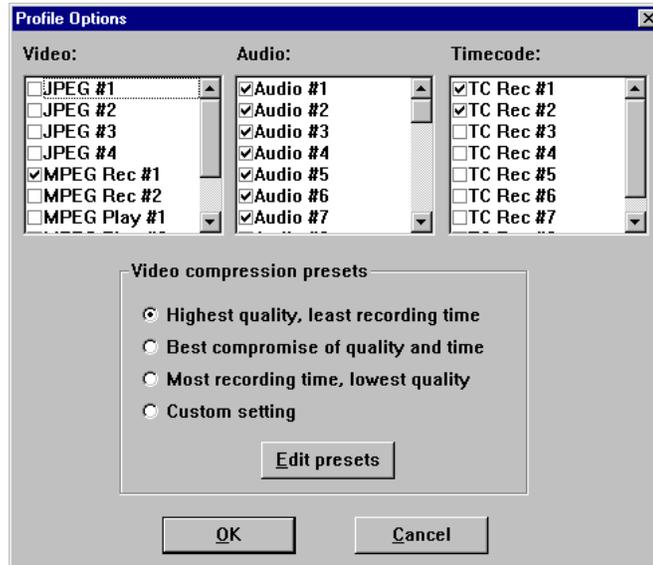
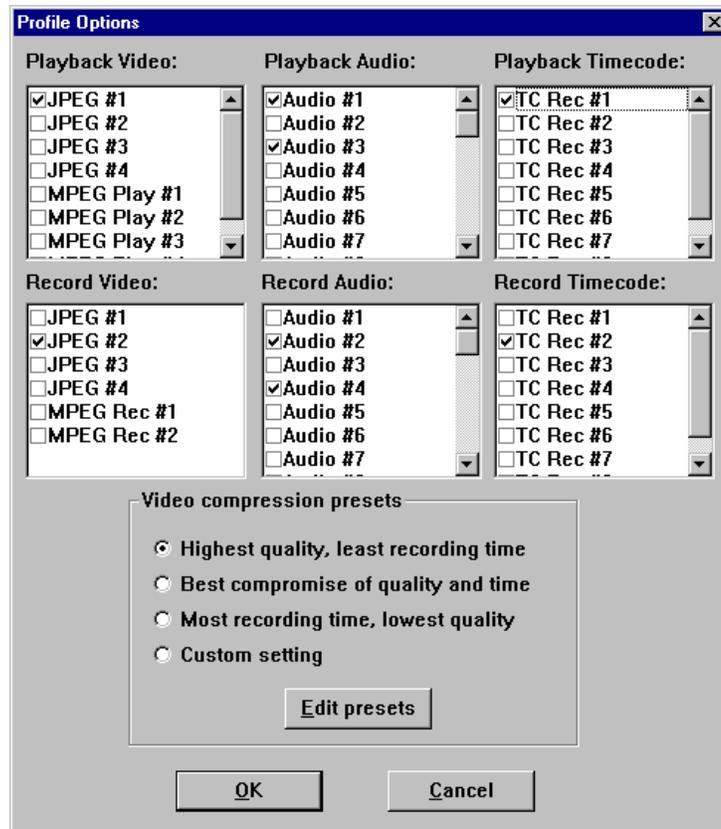

Figure 76. Profile Options dialog box
Figure 78. Profile Options dialog box (BVW [insert-edit] only)
3. Choose **Controller | Configure** to open the Profile Options dialog box for the selected panel. Figure 76 illustrates the standard Profile options with an example configuration selected; Figure 78 illustrates the Profile Options dialog box for BVW [insert-edit], also with appropriate selections shown.
2. Choose **Controller | Configure** to open Profile Options (see Figure 76 on page 135).